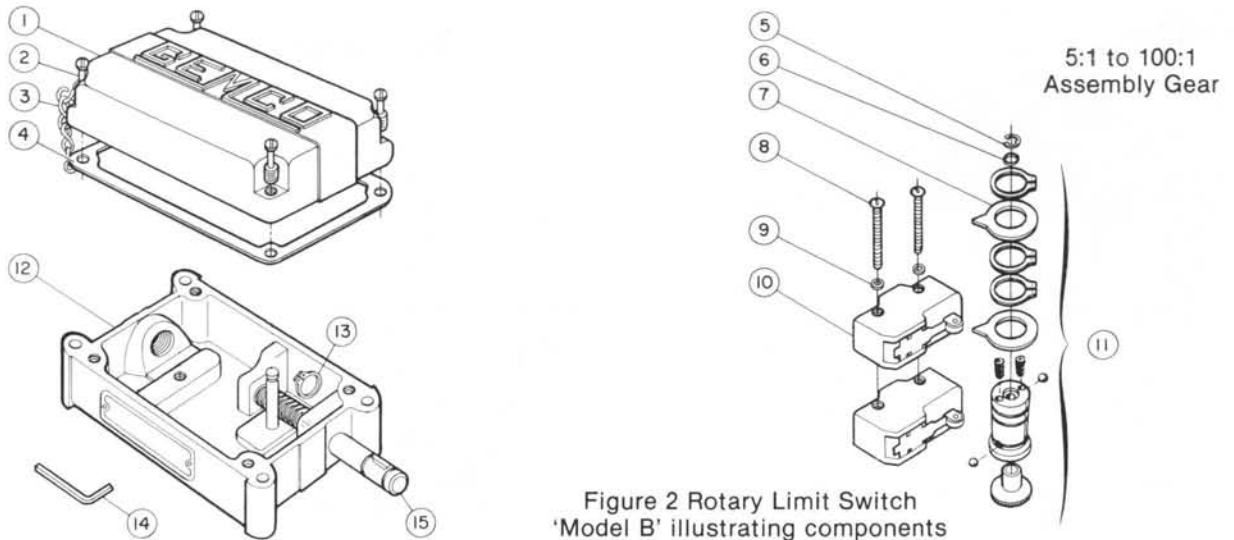

Figure 2 Rotary Limit Switch 'Model B' illustrating components
**Table A (See Figure 2)**
**Table B (See Figure 2)**